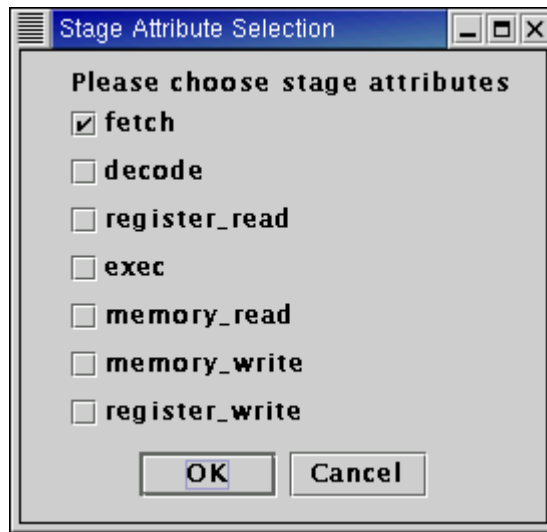

Figure 11: [Stage Attribute Selection] window
- When [attribute] button is clicked, the following window opens to select the stage attribute. Click necessary checkboxes and click [OK] button (Figure 11).